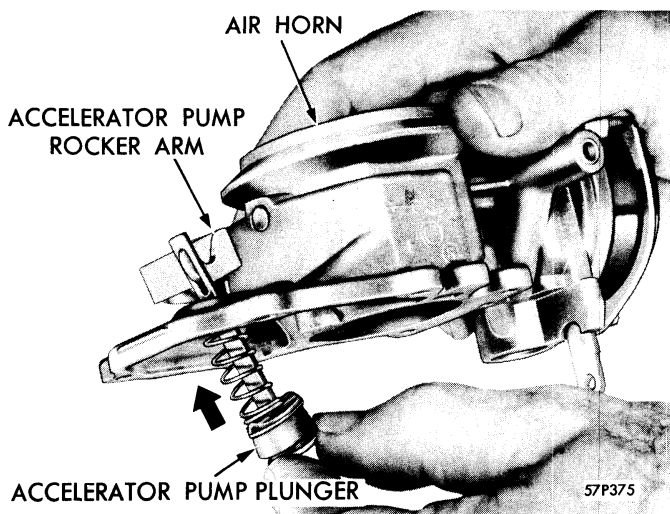

**Figure 18—Removing Float Assembly—6 Cylinder
**NEEDLE VALVE**—Inspect the fuel inlet needle valve, seat and gasket for evidence of grooving, irregular seating, or excessive wear and worn valve assemblies. Remove the float pin retainer, pin and float. Test the floats for leakage and inspect the pivot holes for excessive wear. See Figure 18.